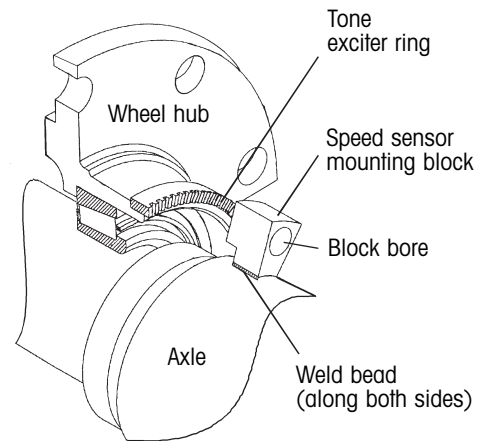

Figure 8. Scribe sensor block location on spindle
location on the axle spindle. See figures 8 and 10.
- Weld the sensor block to the spindle axle. Weld along both sides of the block. See figure 8.